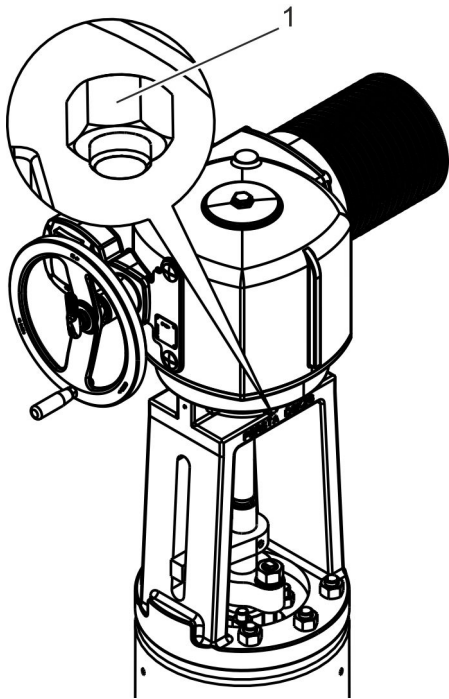

Fig. 33: Fastening the electric actuator
10. Bolt the electric actuator onto the bonnet (Fig. 33/1).
Tighten the nuts (Fig. 33/1) as specified by the manufacturer.